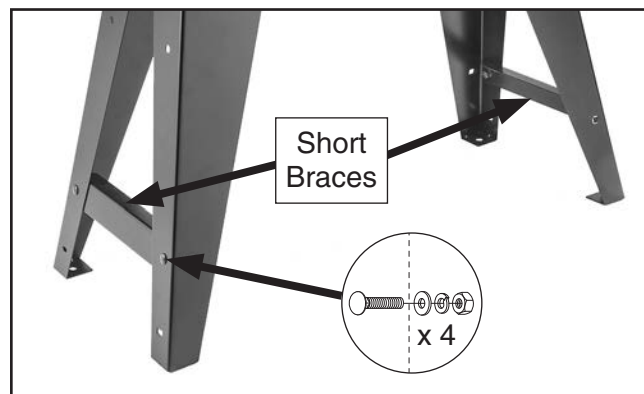

Figure 11. Short braces attached to legs.
4. Attach short braces to legs with (4) M8-1.25 x 16 carriage bolts, 8mm flat washers, 8mm lock washers, and M8-1.25 hex nuts (see **Figure 11**).